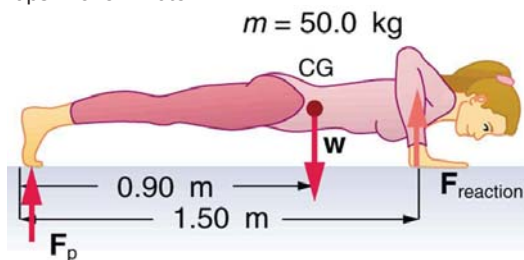

Figure 9.44 A woman doing pushups.
37. (a) What force should the woman in **Figure 9.44** exert on the floor with each hand to do a push-up? Assume that she moves up at a constant speed. (b) The triceps muscle at the back of her upper arm has an effective lever arm of 1.75 cm, and she exerts force on the floor at a horizontal distance of 20.0 cm from the elbow joint. Calculate the magnitude of the force in each triceps muscle, and compare it to her weight. (c) How much work does she do if her center of mass rises 0.240 m? (d) What is her useful power output if she does 25 pushups in one minute?